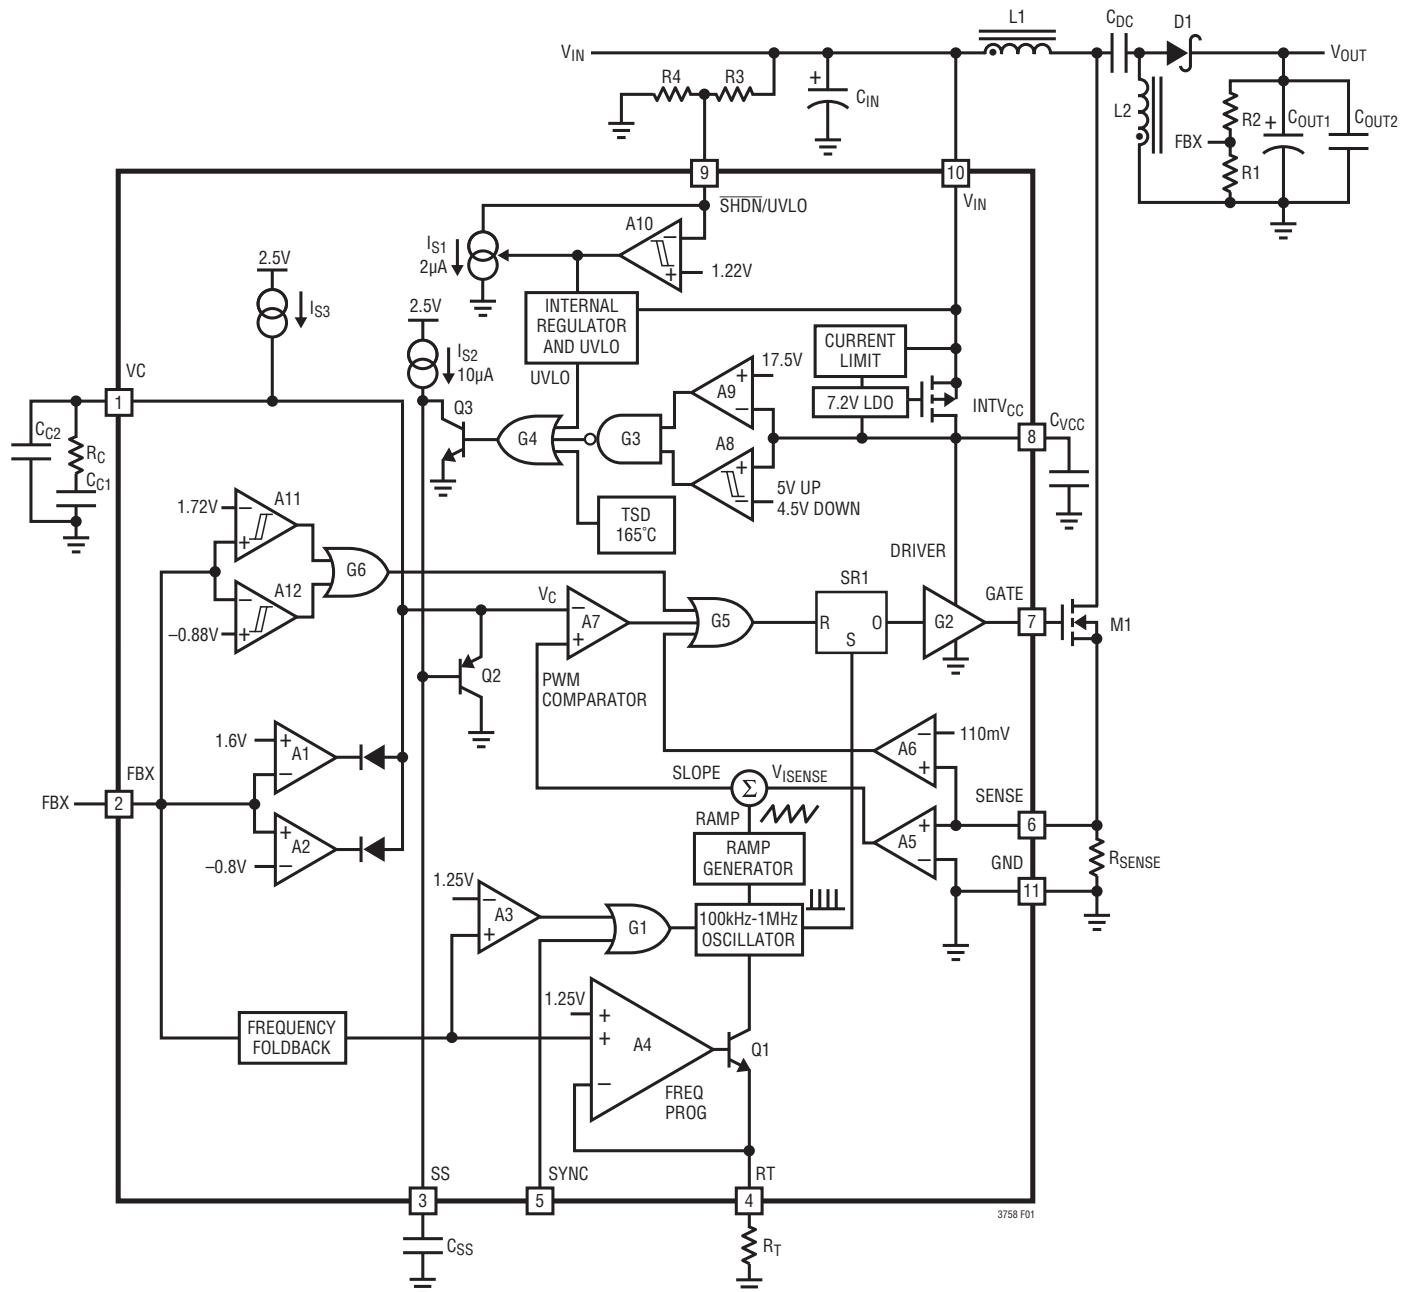

Figure 1. LT3758 Block Diagram Working as a SEPIC Converter
The LT3758 uses a fixed frequency, current mode control scheme to provide excellent line and load regulation. Operation can be best understood by referring to the Block Diagram in Figure 1.
The LT3758 is capable of generating either positive or negative output voltage with a single FBX pin. It can be configured as a boost, flyback or SEPIC converter to generate positive output voltage, or as an inverting converter to generate negative output voltage. When configured as a SEPIC converter, as shown in Figure 1, the FBX pin is pulled up to the internal bias voltage of 1.6V by a voltage divider (R1 and R2) connected from V_{OUT} to GND. Comparator A2 becomes inactive and comparator A1 performs the inverting amplification from FBX to VC. When the LT3758 is in an inverting configuration, the FBX pin is pulled down to -0.8V by a voltage divider connected from V_{OUT} to GND. Comparator A1 becomes inactive and comparator A2 performs the noninverting amplification from FBX to VC.
The purpose of this current is to allow the user to program the rising hysteresis. The Block Diagram of the comparator and the external resistors is shown in Figure 1. The typical falling threshold voltage and rising threshold voltage can be calculated by the following equations:
An internal, low dropout (LDO) voltage regulator produces the 7.2V INTV_{CC} supply which powers the gate driver, as shown in Figure 1. The LT3758 contains an undervoltage lockout comparator A8 and an overvoltage lockout comparator A9 for the INTV_{CC} supply. The INTV_{CC} undervoltage (UV) threshold is 4.5V (typical), with 0.5V hysteresis, to ensure that the MOSFETs have sufficient gate drive voltage before turning on. The logic circuitry within the LT3758 is also powered from the internal INTV_{CC} supply.
The choice of operating frequency may be determined by on-chip power dissipation, otherwise it is a trade-off between efficiency and component size. Low frequency operation improves efficiency by reducing gate drive current and MOSFET and diode switching losses. However, lower frequency operation requires a physically larger inductor. Switching frequency also has implications for loop compensation. The LT3758 uses a constant-frequency architecture that can be programmed over a 100kHz to 1000kHz range with a single external resistor from the RT pin to ground, as shown in Figure 1. The RT pin must have an external resistor to GND for proper operation of the LT3758. A table for selecting the value of R_T for a given operating frequency is shown in Table 1.
The output voltage V_{OUT} is set by a resistor divider, as shown in Figure 1. The positive and negative V_{OUT} are set by the following equations:
The LT3758 addresses this mechanism with the SS pin. As shown in Figure 1, the SS pin reduces the power MOSFET current by pulling down the VC pin through Q2. In this way the SS allows the output capacitor to charge gradually toward its final value while limiting the start-up peak currents. The typical start-up waveforms are shown in the Typical Performance Characteristics section. The inductor current I_L slewing rate is limited by the soft-start function.
the input voltage, load current, etc.). To compensate the feedback loop of the LT3758, a series resistor-capacitor network is usually connected from the VC pin to GND. Figure 1 shows the typical VC compensation network. For most applications, the capacitor should be in the range of 470pF to 22nF and the resistor should be in the range of 5k to 50k. A small capacitor is often connected in parallel with the RC compensation network to attenuate the VC voltage ripple induced from the output voltage ripple through the internal error amplifier. The parallel capacitor usually ranges in value from 10pF to 100pF. A practical approach to design the compensation network is to start with one of the circuits in this data sheet that is similar to your application, and tune the compensation network to optimize the performance. Stability should then be checked across all operating conditions, including load current, input voltage and temperature.